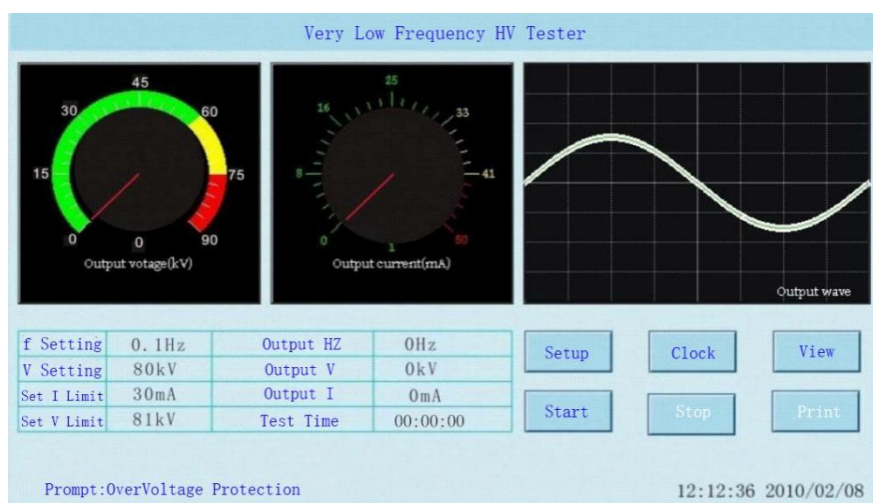
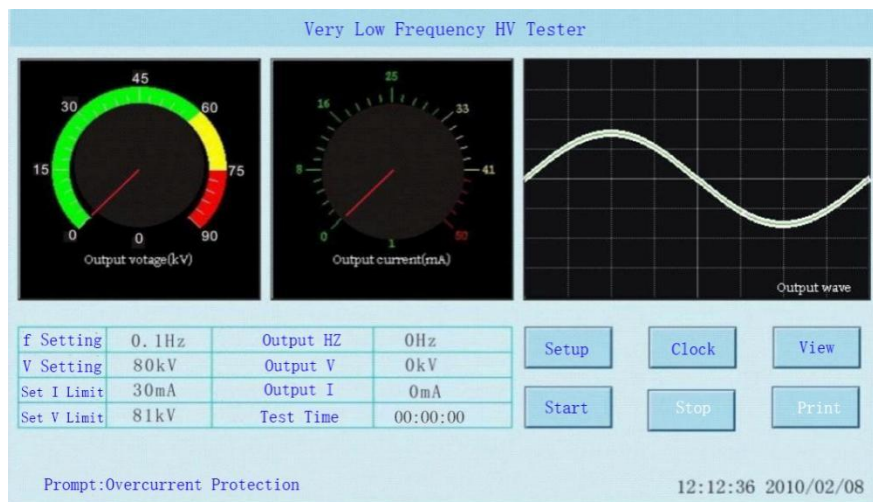

Figure 12 Schematic diagram of overvoltage protection
Figure 13 Schematic diagram of overcurrent protection
3.2.4 During the test, when the protection voltage or protection current is set too small and the actual output voltage or current exceeds the protection value, the instrument will display an overvoltage or overcurrent protection prompt, and the instrument will immediately stop outputting, and it is necessary to reset the appropriate protection Discharge after the value, and then restart the test. As shown in Figure 12 and Figure 13: